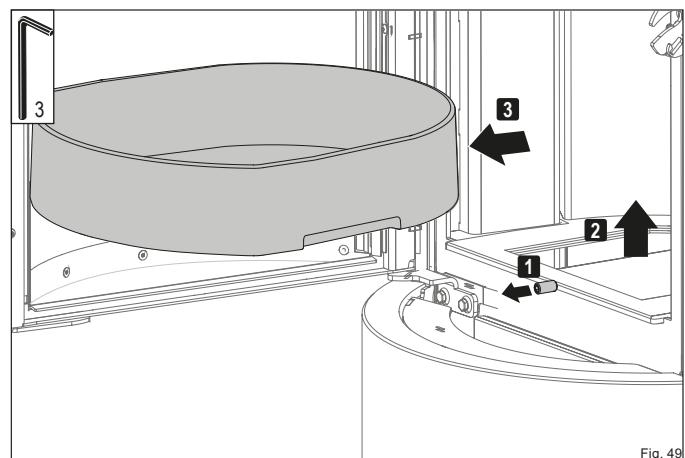

Fig. 49
- Loosen the set screw (Fig. 49).
- Lift the fire grate out of the opening (Fig. 49).
- Remove the fire grate from the firebox (Fig. 49).